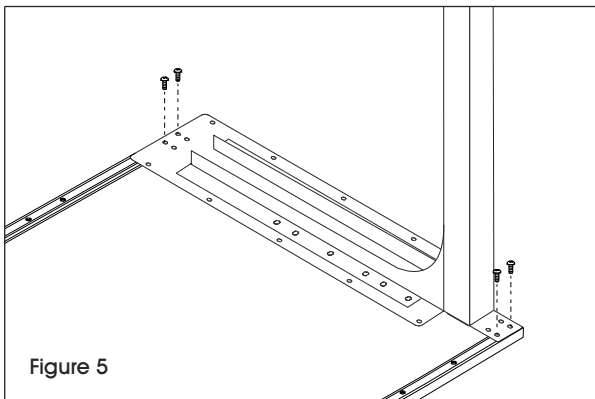

Figure 5
2. Secure L-leg (6) with four 1/4"-20 x 5/8" bolts. Threaded inserts are provided. (See Figure 5)